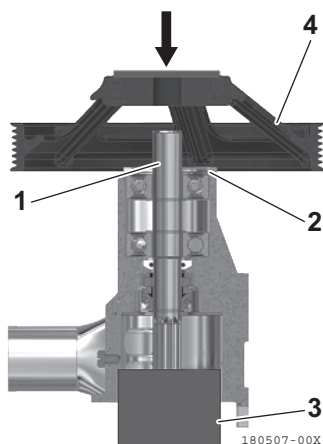

Figure 19
6. Insert the new shaft kit (**Figure 19, (1)**) into the seawater pump, and install the circlip (**Figure 19, (2)**).
8. Place the seawater pump on the support (**Figure 19, (3)**) that supports the end of the shaft.
9. Press-fit the pulley (**Figure 19, (4)**) from above.